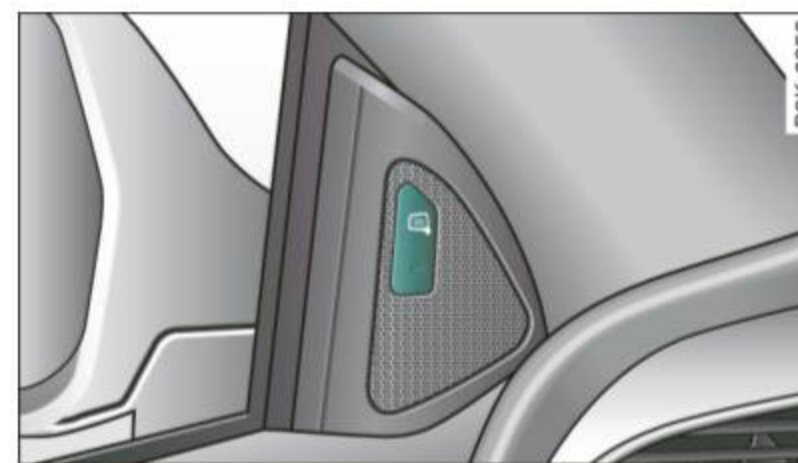

Fig. 134 Driver's door: Side assist button
- Press the ⇒ fig. 134 button. The indicator on the button lights up. ▶